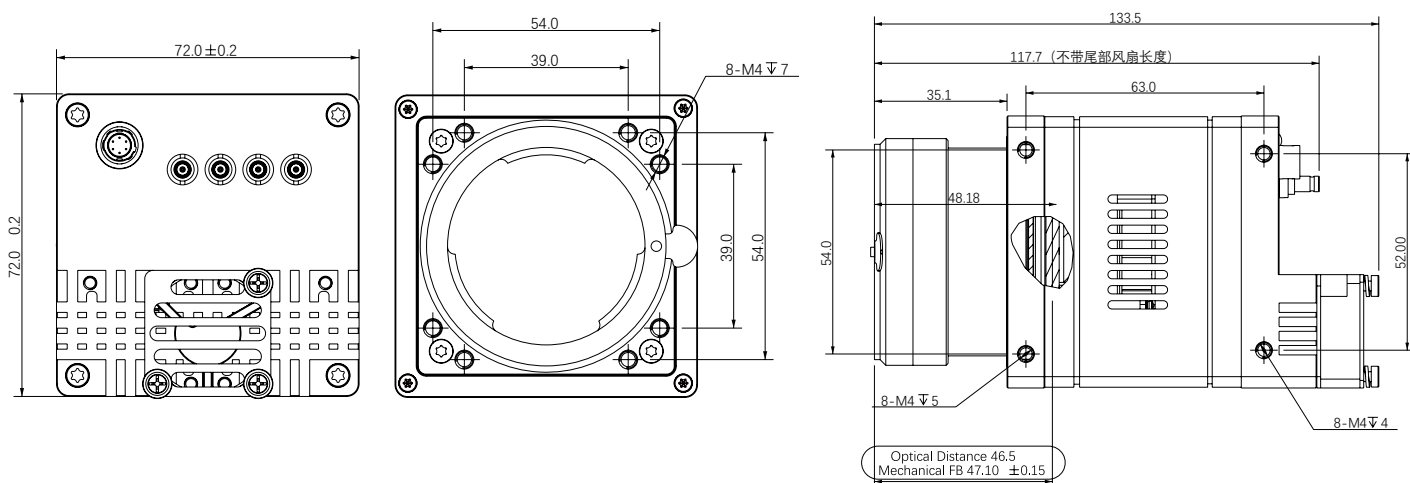

Fig. 1-3: Mechanical Dimensions (in mm) for Cameras with 72 * 72 * 72mm housing (F interface).
- Fig. 1-3: Mechanical Dimensions (in mm) for Cameras with $72 \times 72 \times 72$ mm housing (F interface).